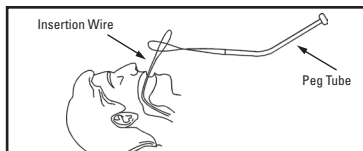

Figure 6
- Pass the insertion wire loop through the wire loop on the PEG tube (Figure 6).